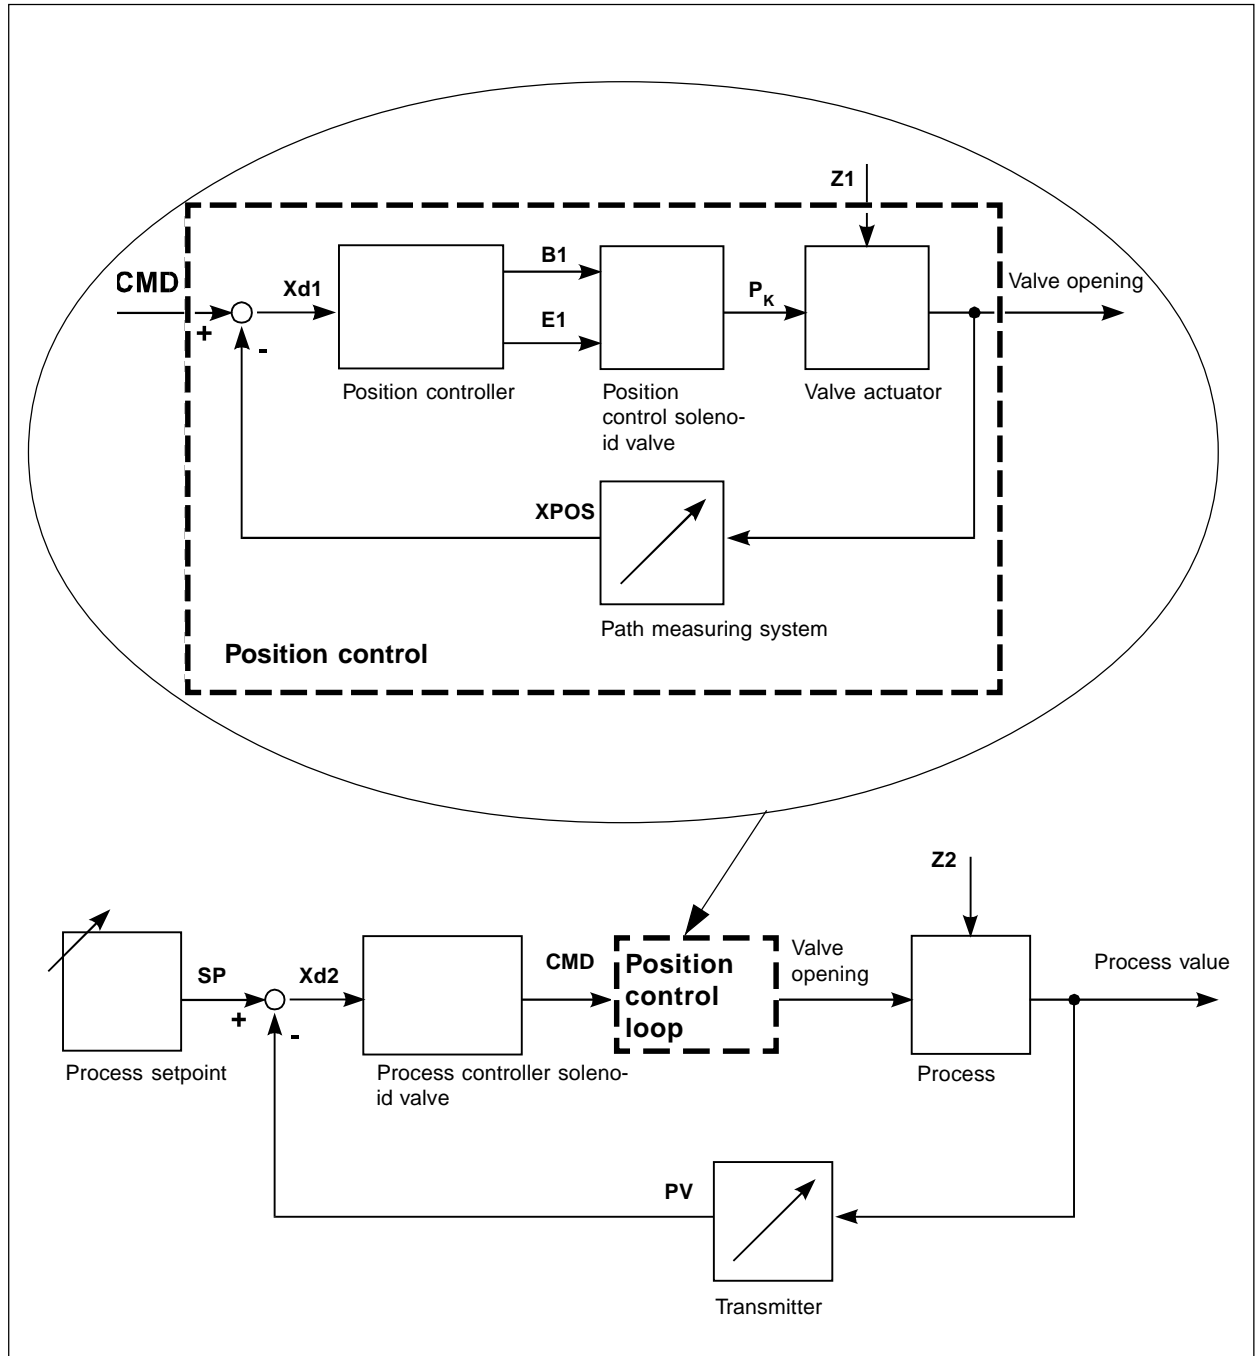

Fig 3.7: Process control diagram
By using the positioner as a process controller, the previous position control function is a component of the main control loop. The process controller within the main control loop possesses a PID function. The process setpoint (SP) is used and compared to the controlled process value (PV). A sensor delivers the actual value. The manipulated variable correction functions as described in figure 3.7 Z2 represents a disturbance variable.